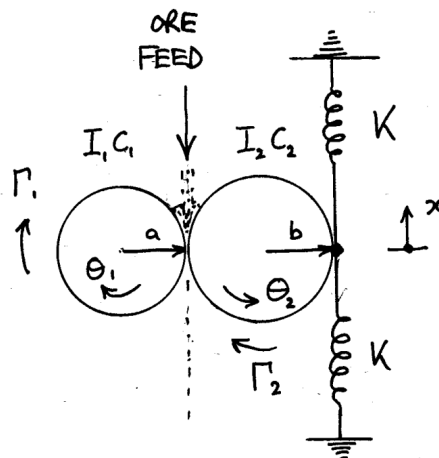

Figure 9.
9. Two heavy rollers of different diameters are used to crush ore. They are geared together at each ends of their cylindrical length. The rollers oscillate back and forth both to crush the ore and to keep freeing the path. The rollers are constrained about an equilibrium position by two springs attached to the second roller. The layout is shown in Figure 9. Find the transfer function X/T_1 . [I is the moment of inertia, C is coefficient of resistance due to velocity.]